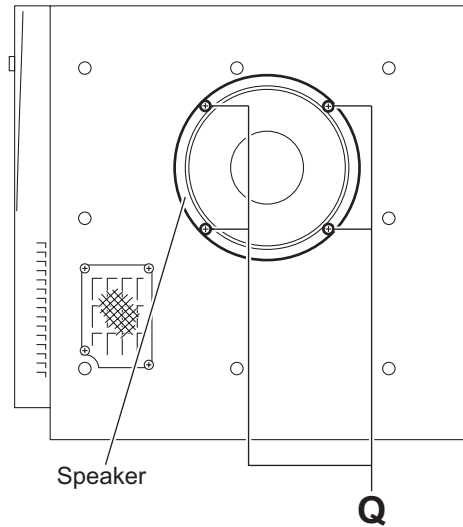

Fig.18
### 3.4.12 Removing the speaker (See Figs.18 and 19)
- (1) From right side of the speaker main body, remove the four screws **Q** attaching the speaker. (See Fig.18)